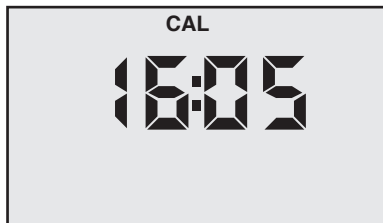

Figure 11
Example shown in Figure 11, 16:05 equals 4:05 PM.
3. Press $\frac{\text{CAL}}{\text{MCLR}}$ to initiate. **CAL** will be displayed along with the time, (see Figure 11).